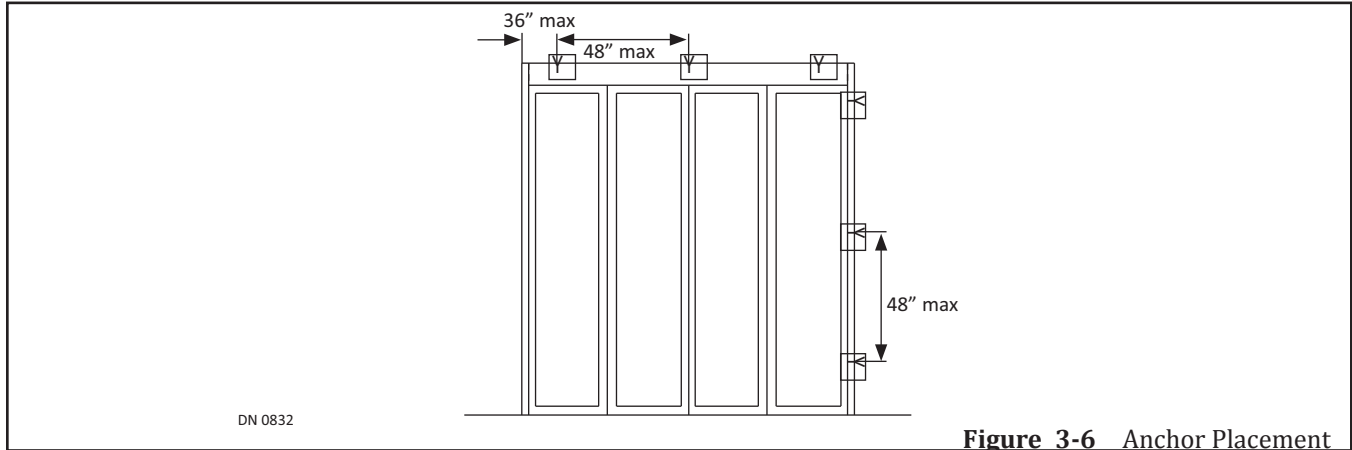

Figure 3-6 Anchor Placement
- Use 1/4 inch diameter anchors with a minimum of 3 per Jamb tube, maximum is 48 inches on center. Drill 1/4 inch diameter holes in the face of Jamb Tube and then countersink each hole. Please see Figure 3-6.